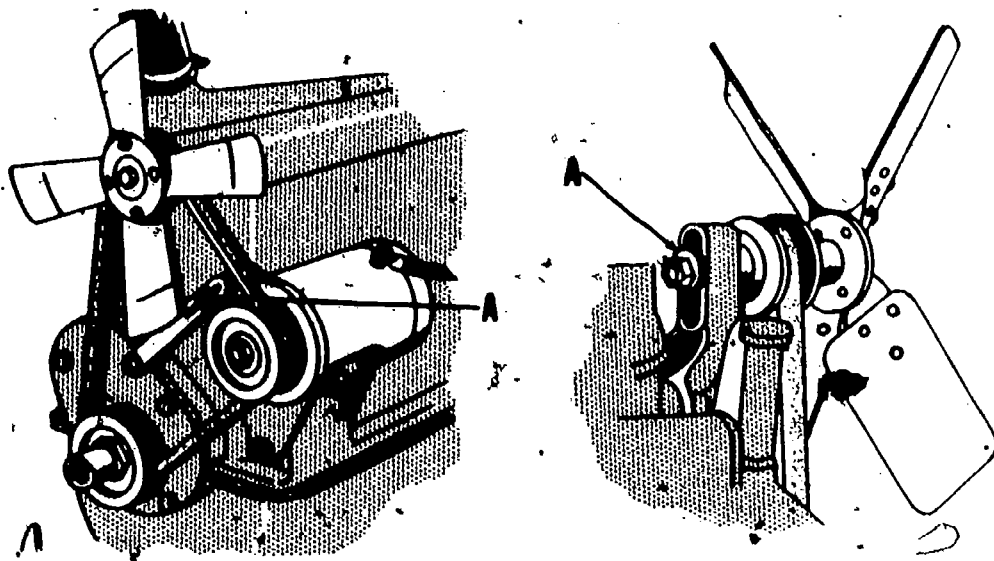

Fig 2-14. Two methods of adjusting fan belts (A-adjusting nut).
5. Worn, loose, or slipping fan belts often cause overheating. To check excessive looseness or tightness, push in on the belt midway between the fan and crankshaft pulleys. Individual equipment TM's will specify the amount of slack that should exist (usually between 3/4 and 1 in.). If it is necessary to adjust the fan belt, first look at the type of device used to provide the fan belt takeup. Two methods of adjusting fan belts are illustrated in figure 2-14. Never adjust the belt too tightly, as this will cause unnecessary strain on the fan and generator bearings.